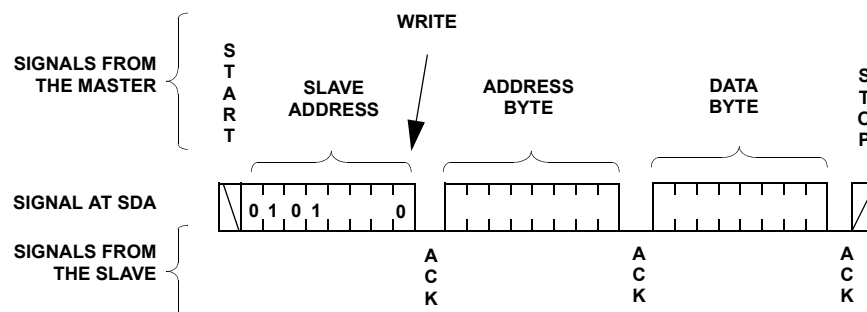
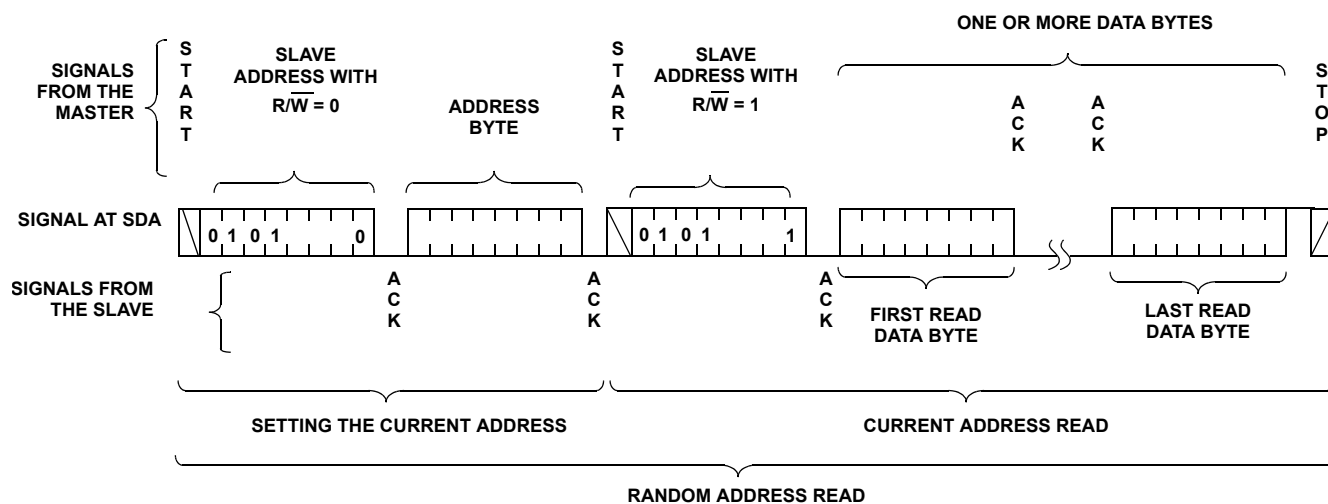

FIGURE 7. BYTE WRITE SEQUENCE
FIGURE 9. MOVE/READ SEQUENCE
14. Access the desired DR or WCR using a new write or read command (see Figure 7 for write and Figure 9 for read.)
For any Byte Write operation, the X9252 requires the Slave Address byte, an Address Byte, and a Data Byte (see Figure 7). After each of them, the X9252 responds with an ACK. The master then terminates the transfer by generating a STOP condition. At this time, if the write operation is to a volatile register (WCR, or SR), the X9252 is ready for the next read or write operation. If the write operation is to a nonvolatile register (DR), and the  $\overline{WP}$  pin is high, the X9252 begins the internal write cycle to the nonvolatile memory. During the internal nonvolatile write cycle, the X9252 does not respond to any requests from the master. The SDA output is at high impedance.
The Move/Read operation simultaneously reads the contents of a Data Register (DR) and moves the contents into the corresponding DCP's WCR and the WCRs of all DCPs are updated with the content of their corresponding DR. Move/Read operation consists of a one byte, or three byte instruction followed by one or more Data Bytes (see Figure 9). To read an arbitrary byte, the master initiates the operation issuing the following sequence: a START, the Slave Address byte with the R/W bit set to "0", an Address Byte, a second START, and a second Slave Address byte with the R/W bit set to "1". After each of the three bytes, the X9252 responds with an ACK. Then the X9252 transmits Data Bytes